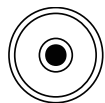

Fig.9
- (1)Turn footscrews to centre the bubble.
- (2)Turn the instrument 180°,the bubble shall be at centre.(Fig.9) otherwise it shall be adjusted. The method is as following.